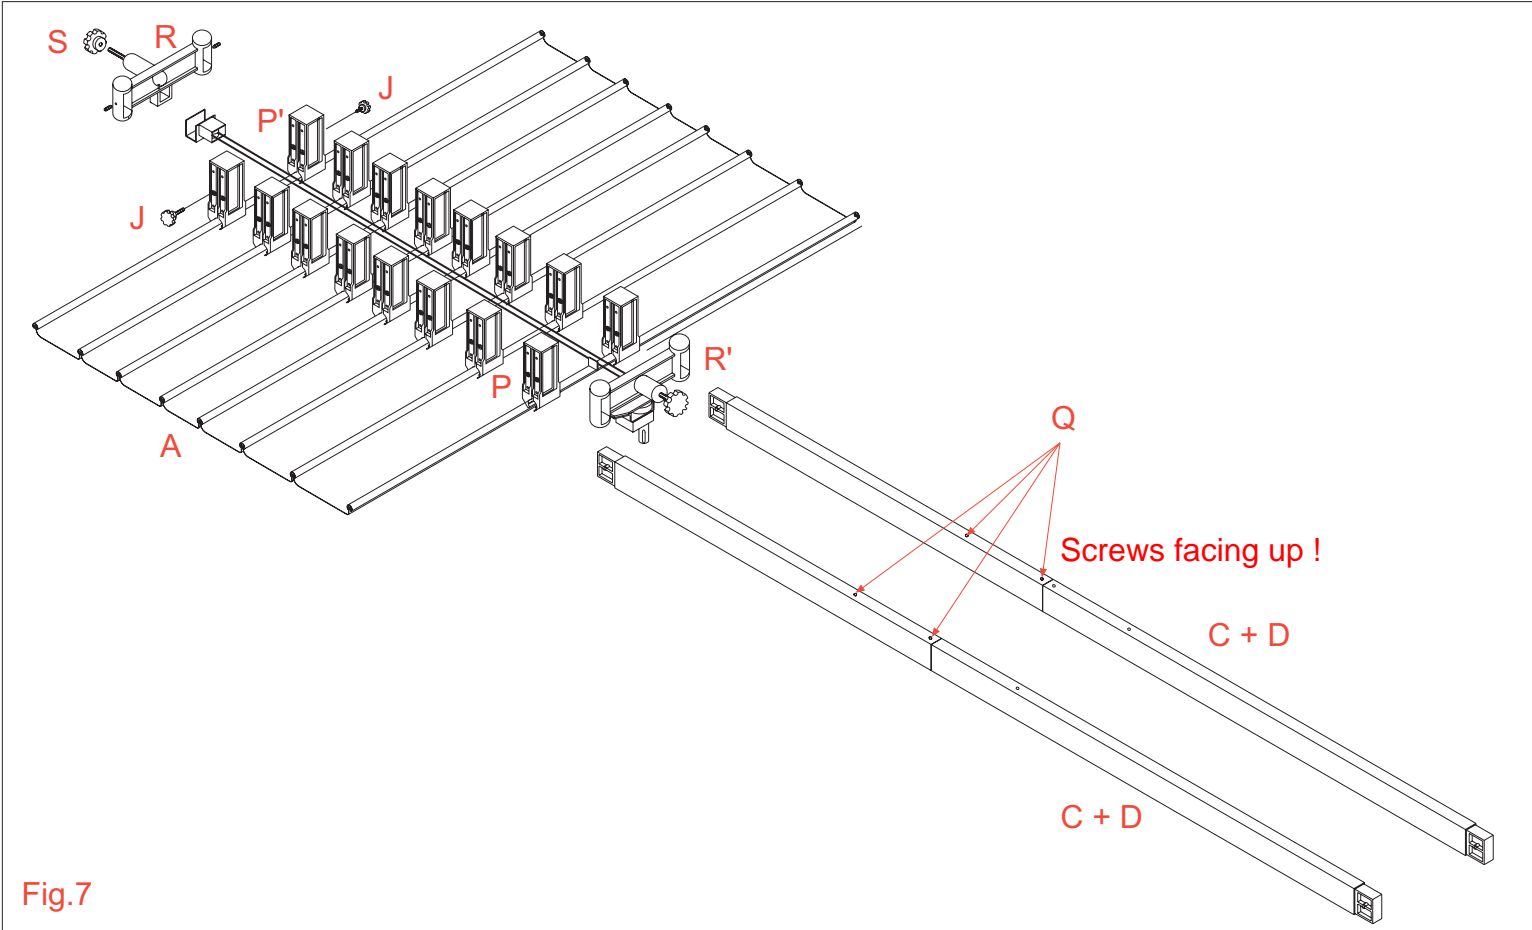

Fig. 7
2. (Fig. 7) Align the sliders P and P' as shown in the picture.